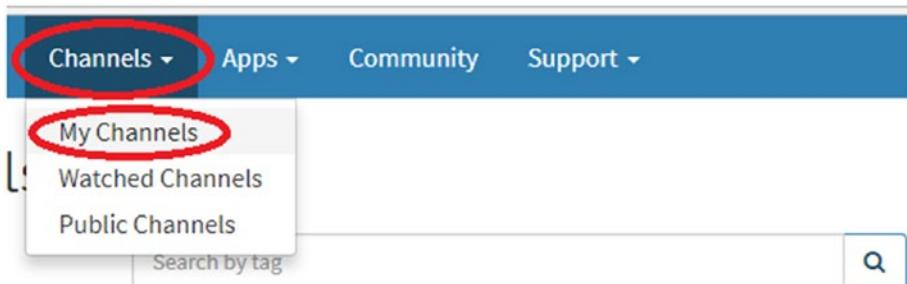

Figure 6-1. Menu command for accessing the My Channels page
1. In the top navigation menu, select Channels ➤ My Channels (Figure 6-1).